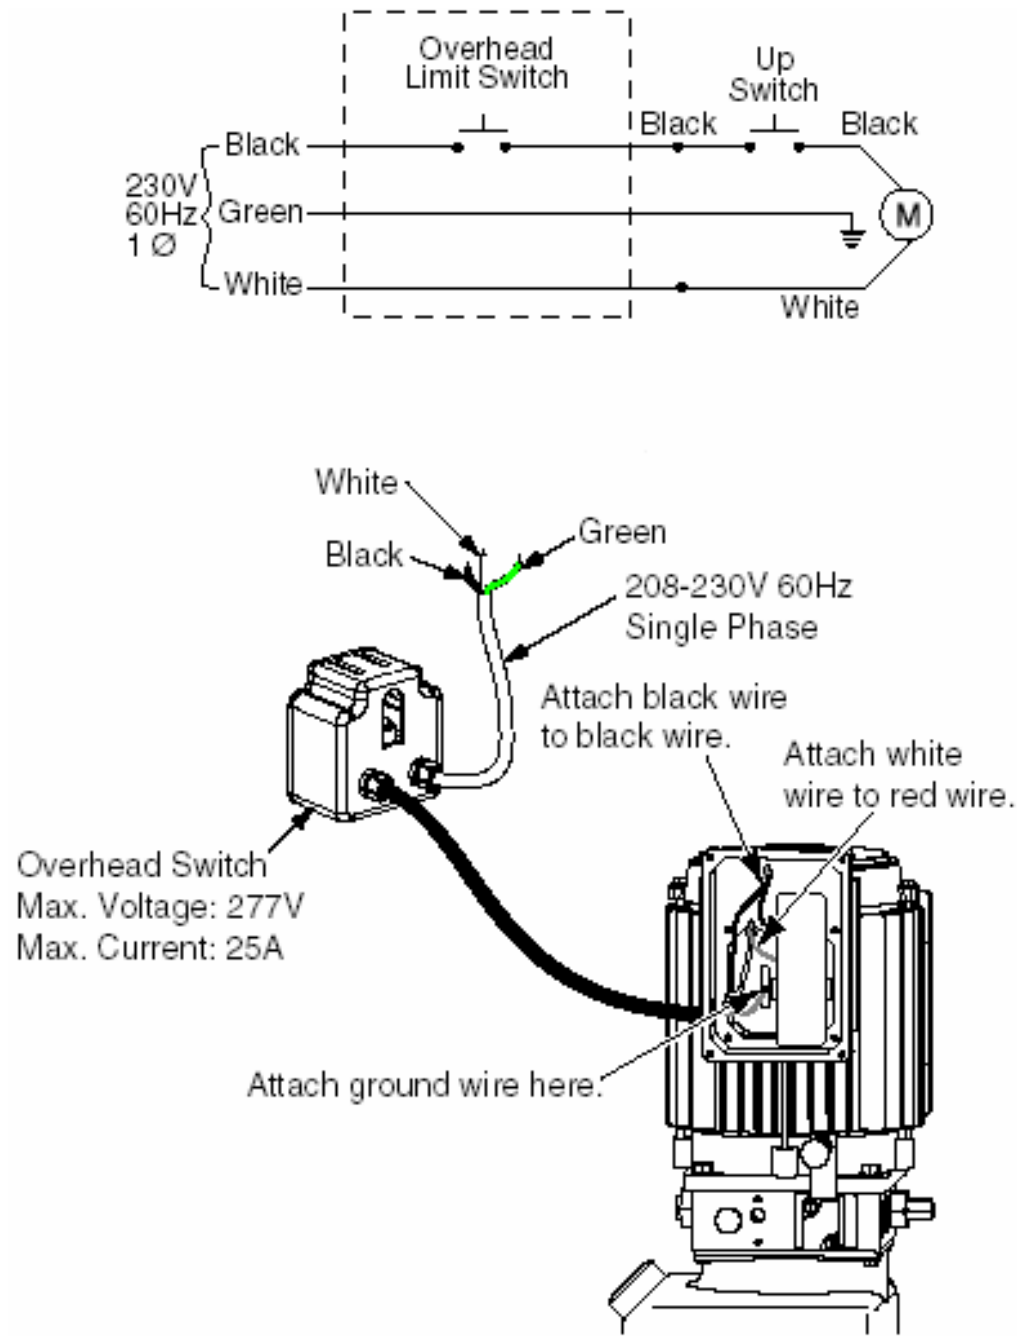

Figure 15
- * Have a certified electrician establish 208-230V, single phase, 60 Hz., 20 amp, power supply to motor and overhead switch, figure 15.